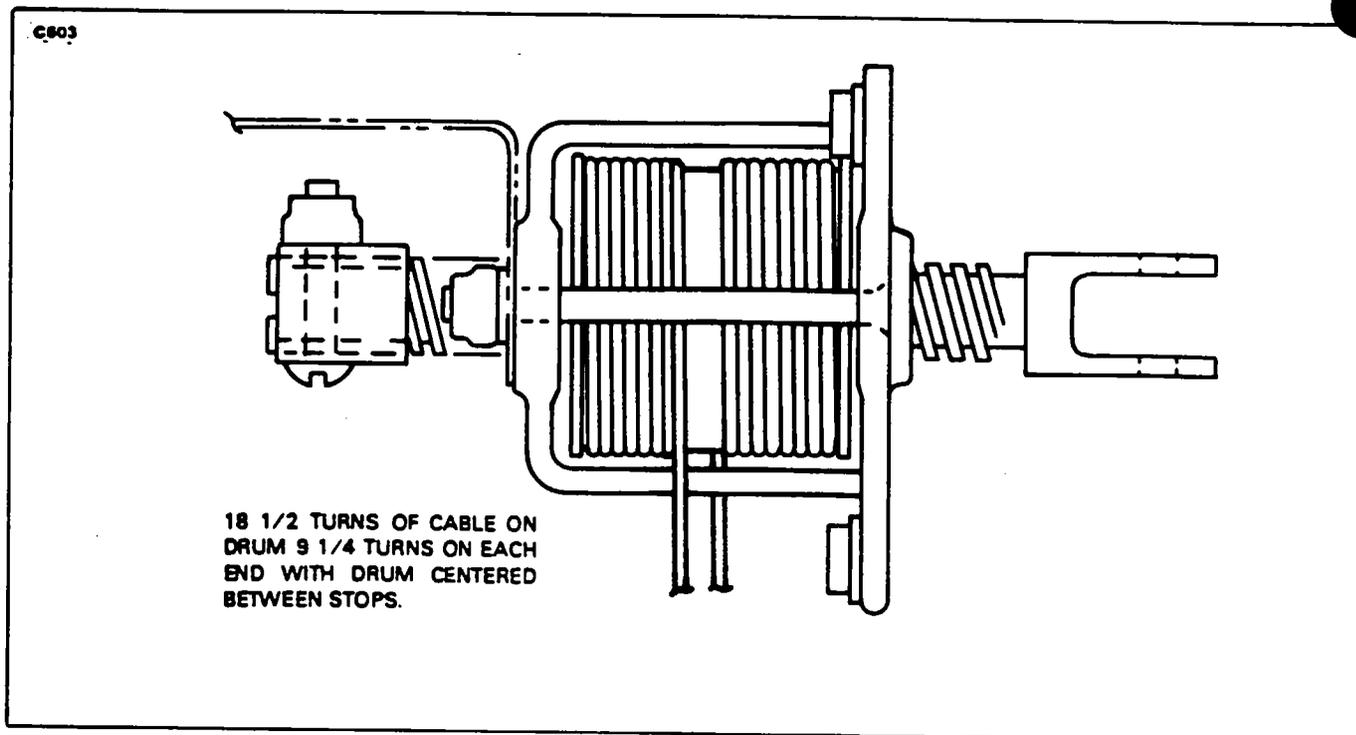

Figure 27-12a. Wrapping Aileron Trim Drum (Wing)
**WRAPPING AILERON TRIM DRUM (WING).** (Refer to Figure 27-12a.)
8. Insert the drum in the housing bracket, position the drum and route the cables from the assembly as shown in Figure 27-12a.